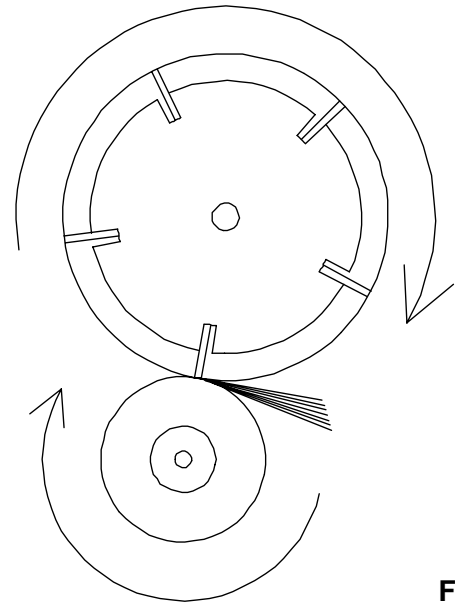

FIG. 30
Turn on the Grinding Wheel Motor and the Spin Drive Motor. Set the Spin speed at approximately 200 rpm for 10" (254 mm) reels and 300 rpm for 5" (127 MM) reels. (Refer to Spin Drive Speed information on page 23). Make sure spin rotation is the same as the grinding wheel - clockwise (CW) looking from right end. See FIG. 30.